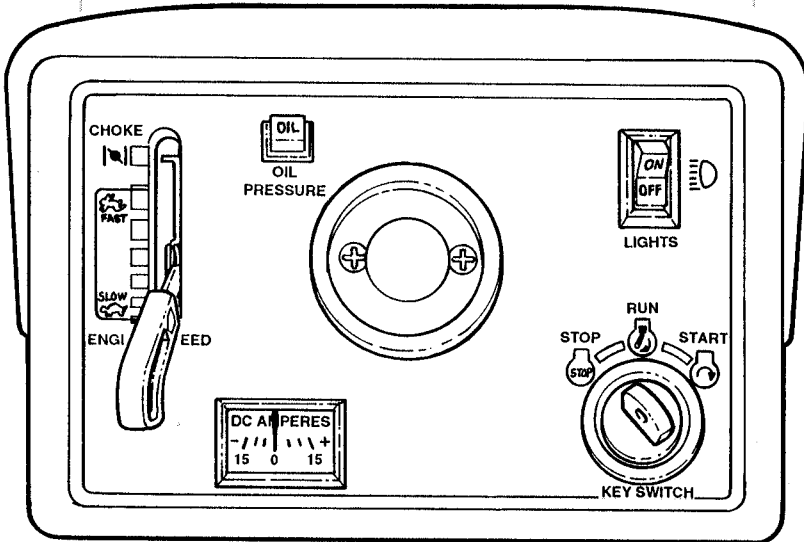

FIGURE 2
ENGINE: STOP ENGINE by turning the KEYSWITCH to "OFF". See Figure 2.
2. CHOKE ENGINE for cold starting by moving THROTTLE CONTROL to "CHOKE" position. (Little or no choking will be needed when restarting a warm engine). Refer to Figure 2.